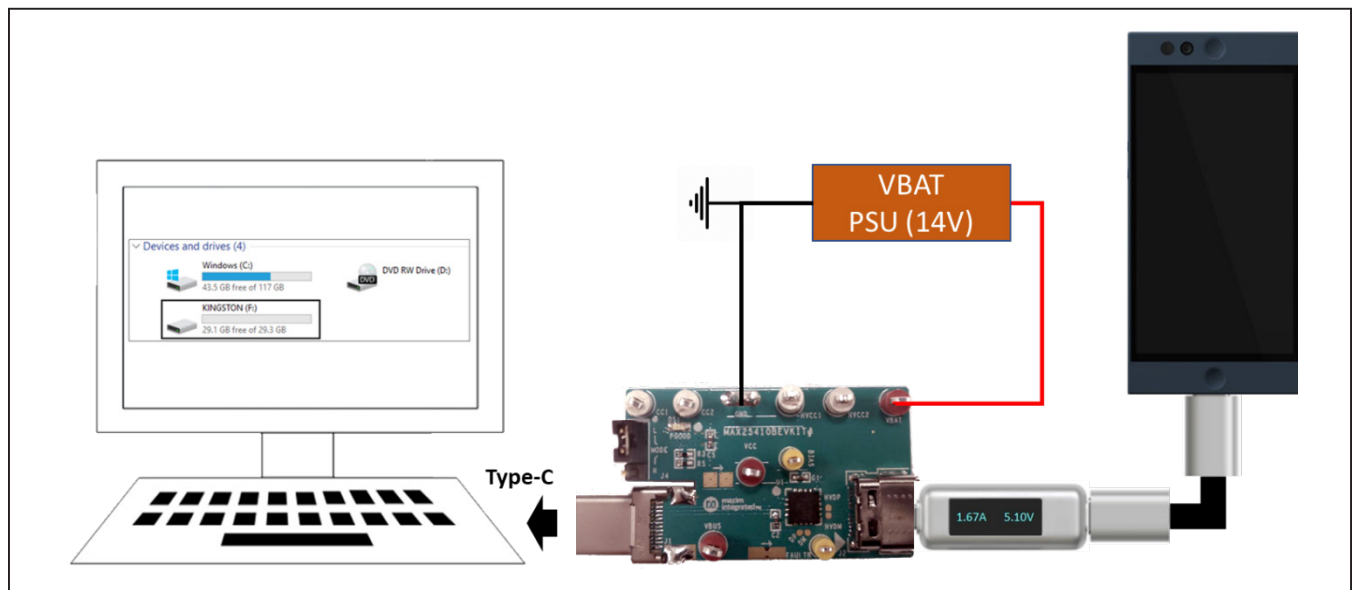
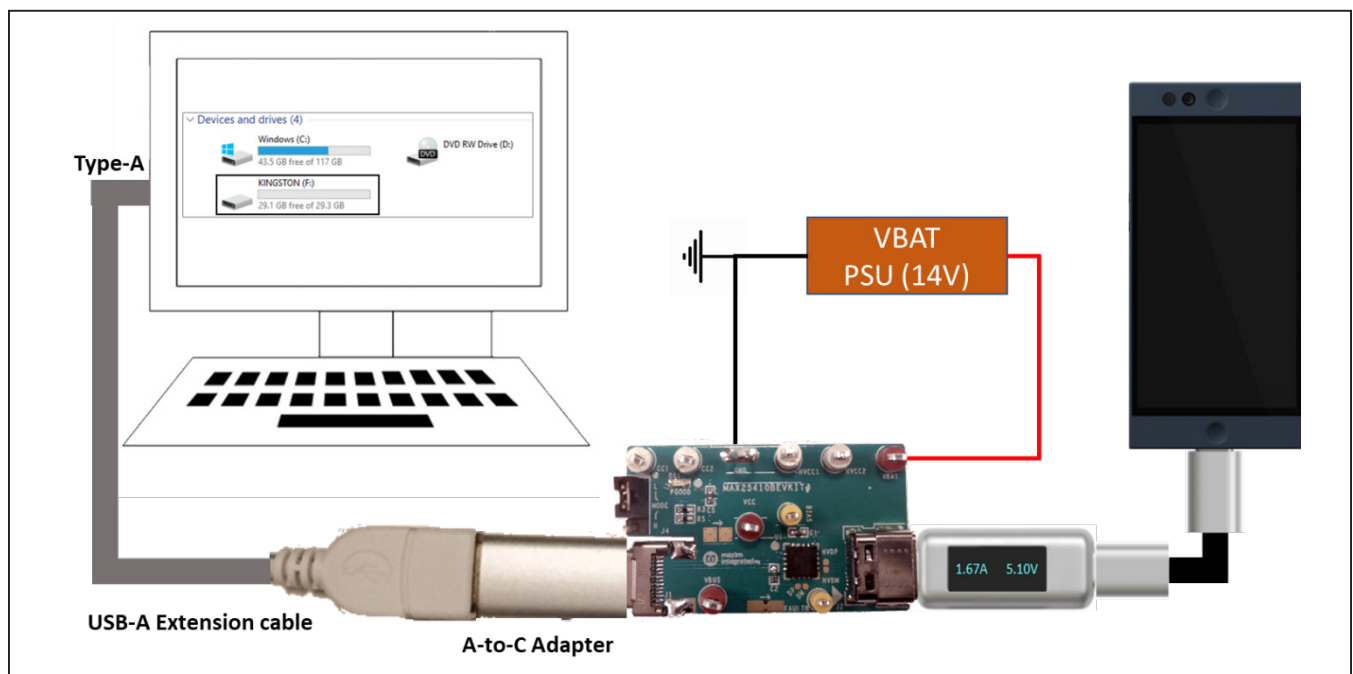

Figure 4. Auto-CDP Setup (Type-C Downstream Port)
Figure 5. Auto-CDP Setup (Type-A Downstream Port)
- Laptop with 1.5A or greater Type-C or Type-A downstream port. If Type-A, an A-to-C adapter and extension cable (1m or shorter) are needed. See the example setups shown in Figure 4 and Figure 5.